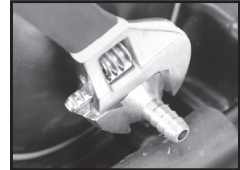

Figure 3
- 3) Remove brass hose barb (fig. 3).